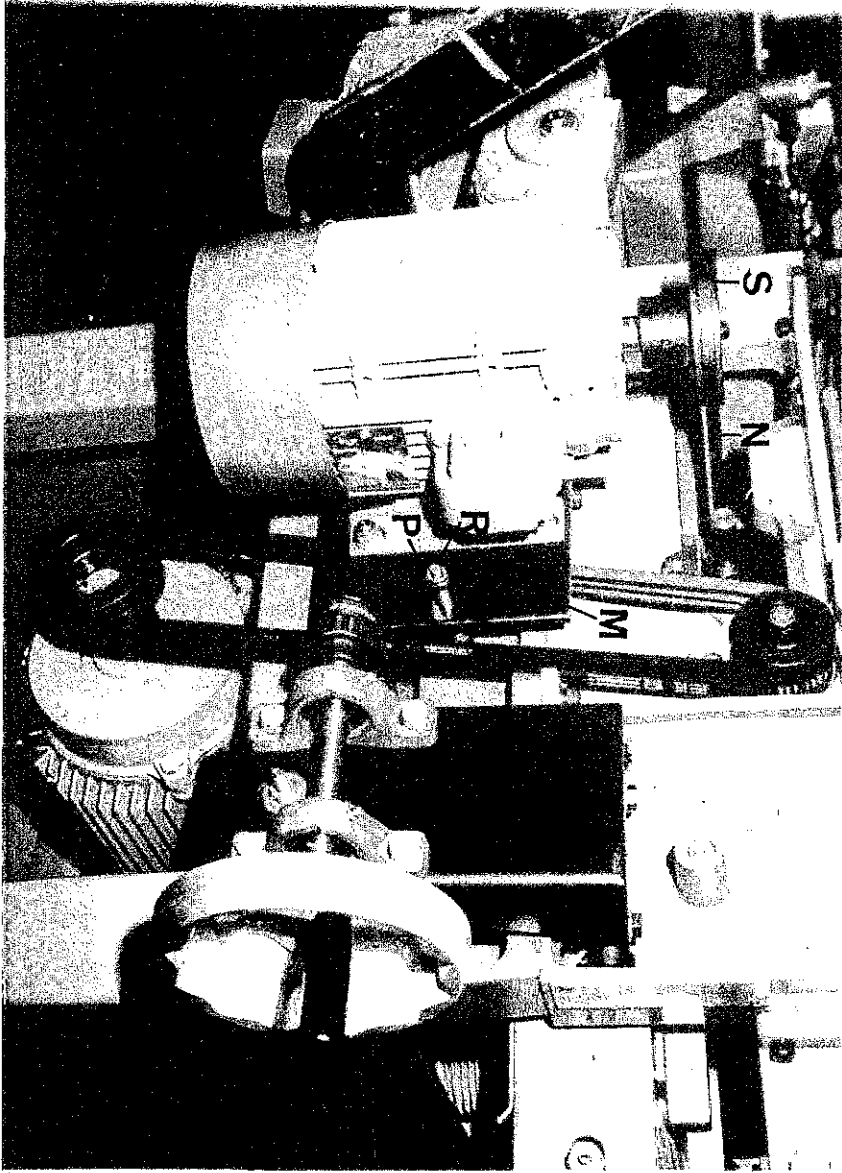

FIG. 27
- c) Depress pivot plate "M" FIG.27 to remove thicknesser side head drive belt "N" from drive pulley "S".
- d) Depress pivot plate "M" FIG.27 to remove thicknesser side head drive belt "N" from drive pulley "S".